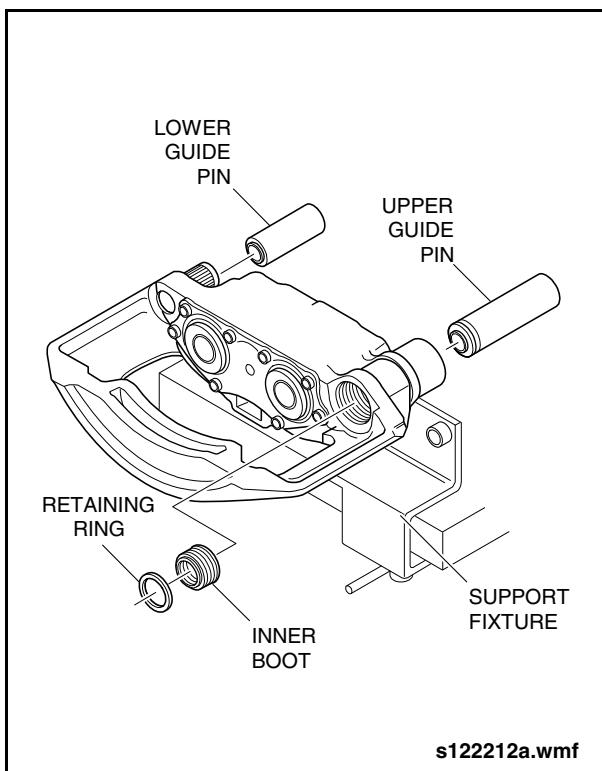

Fig. 1-59: Brake Caliper Guide Pin Removal
8. Remove the retaining ring from the rubber boot on the upper guide pin. See "Fig. 1-59: Brake Caliper Guide Pin Removal" on page 63.